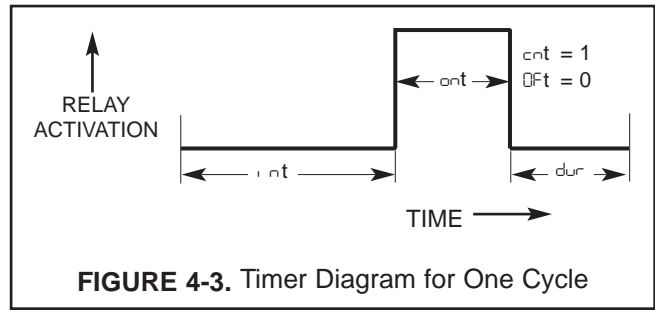

FIGURE 4-3. Timer Diagram for One Cycle
4.4.1 Interval Timer Configuration (i nt). Refer to Figures 4-3 and 4-4.